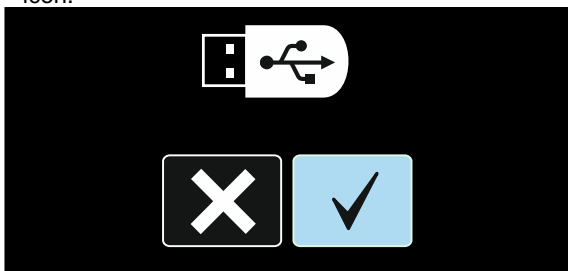

Figure 53
- Use the Set Control [11] to highlight the Check Mark icon. See Figure 53.